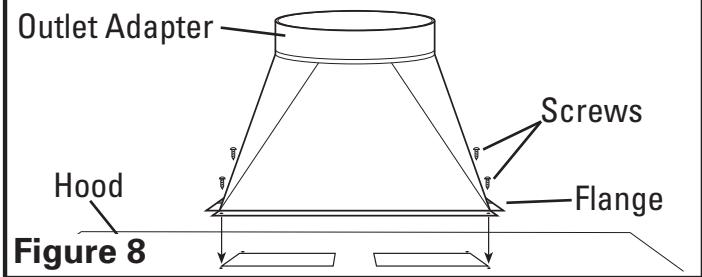

Figure 8
- Install the proper sized outlet adapter (available separately) to the hood by matching up the four holes on the flange of the adapter to the four corresponding holes on the hood and secure in place with the provided screws. Ensure an airtight seal around the adapter by securing all connections with ducting tape (**Figure 8**).